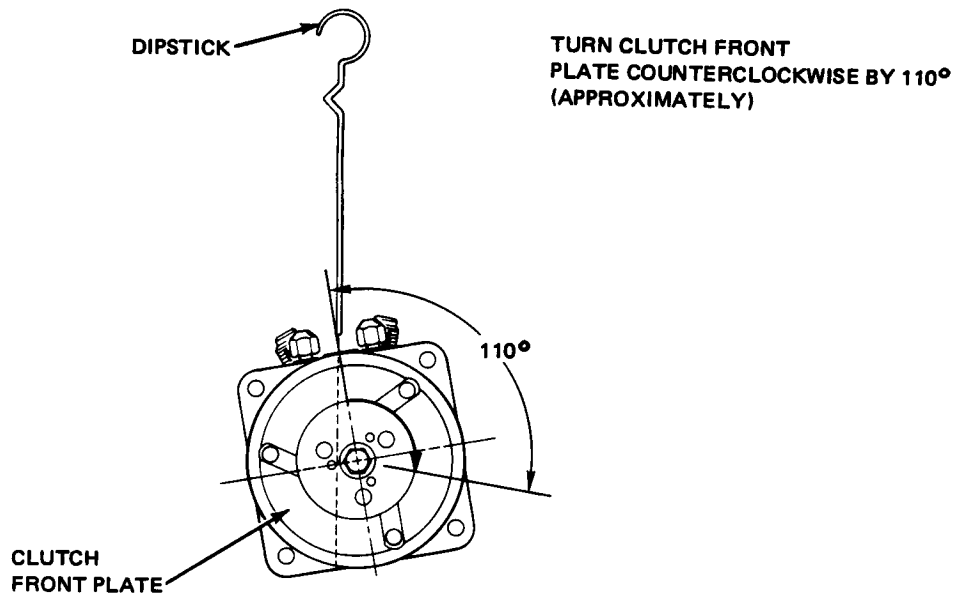

Figure 14-8b. Rotation of Clutch Front Plate (Sankyo Compressor Oil Check)
5. Rotate the clutch front plate clockwise by approximately 110° (refer to Figure 14-8b).